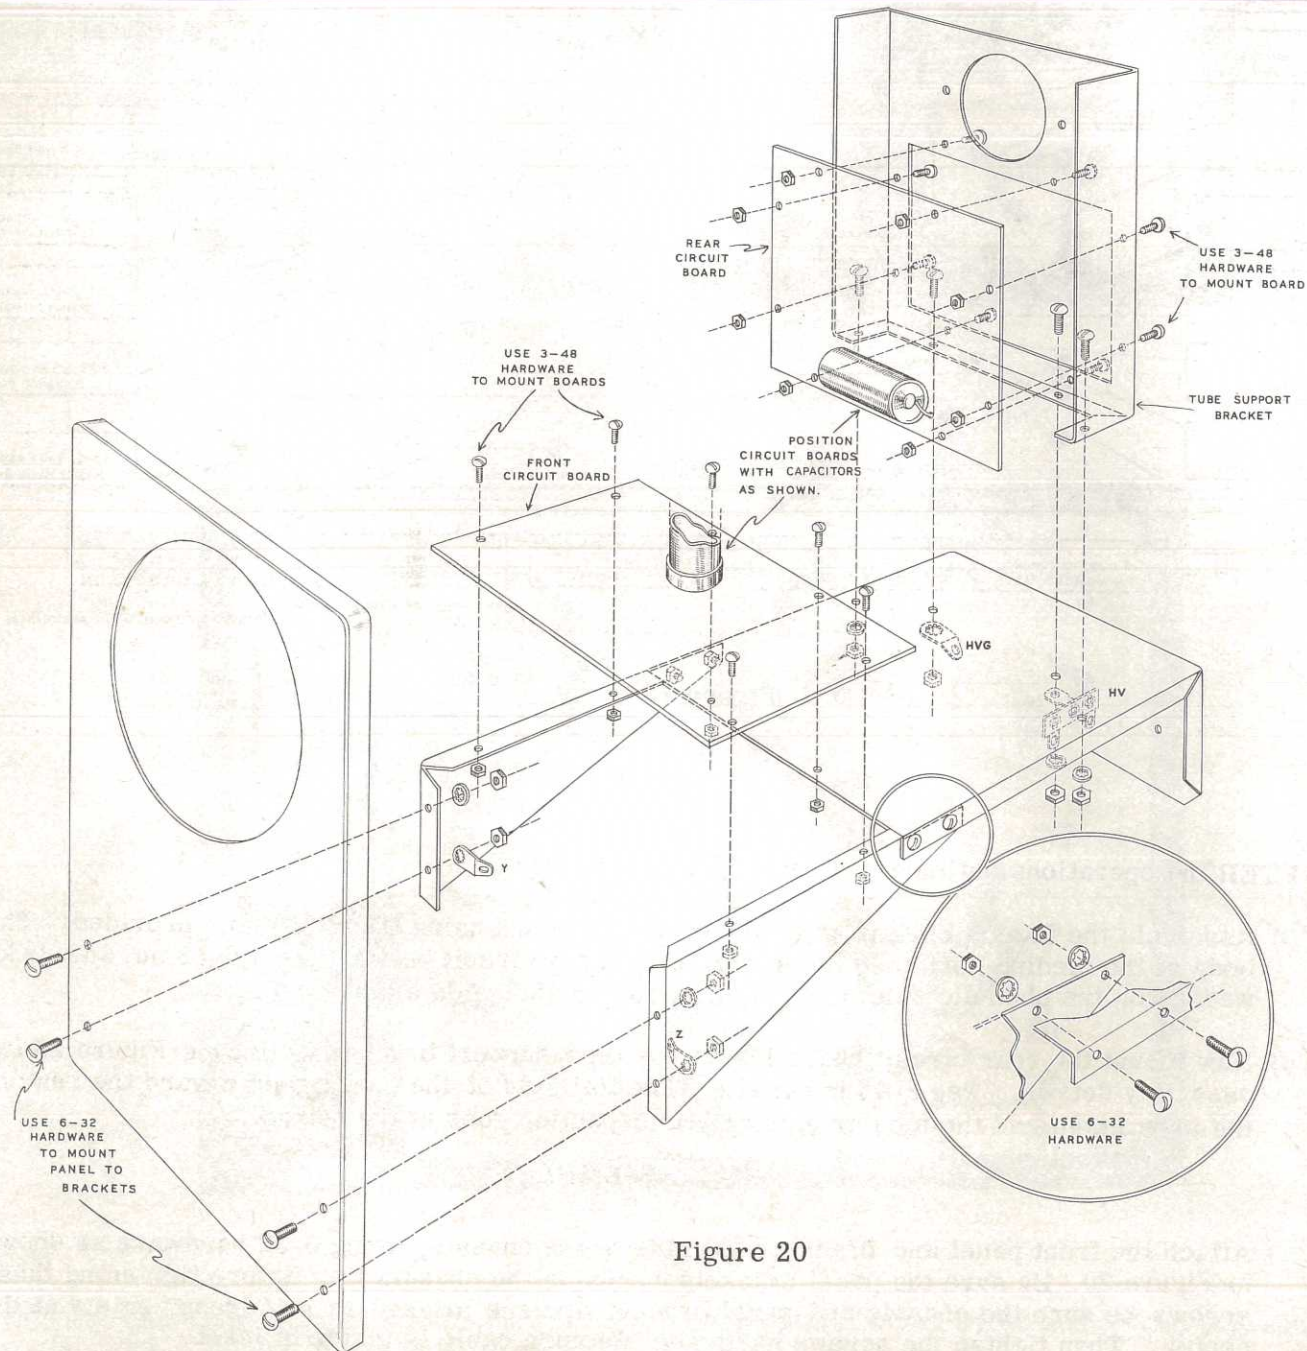

Figure 20
(✓) Connect the short bare wire (previously soldered to XXG, the HOR. GND. binding post) to lug Z (S). (See Figure 20).
- (✓) Now mount the rear circuit board inside the tube-support bracket, following Figure 20 for assembly details. Use 3-48 hardware. The foil side of the board goes toward the rear of the instrument and the tubular electrolytic capacitor goes at the bottom.
- (✓) Attach the front panel and bracket assembly to the chassis, using 6-32 hardware as shown in Figure 20. Be sure the panel brackets go inside the chassis lip. Before tightening these screws be sure the chassis and panel bracket lips are aligned so no "droop" exists at the center. Then tighten the screws securely. Be sure cable is inside bracket.
- (✓) Mount the tube-support bracket to the chassis, using 6-32 hardware. It will be helpful to insert the screw under the tubular electrolytic capacitor before the bracket is placed on the chassis. Pass this screw through its hole in the chassis, add a 2-lug terminal strip HV, a lockwasher and a nut. See Figure 20.
- (✓) Next, install the similarly placed screw on the left side of the chassis, mounting solder lug HVG under the chassis as shown in Figure 20.
- (✓) Mount the front circuit board to the chassis and panel brackets, using 3-48 hardware as shown. Be sure the board is positioned as shown, with the filter capacitor to the rear. See Figure 20.